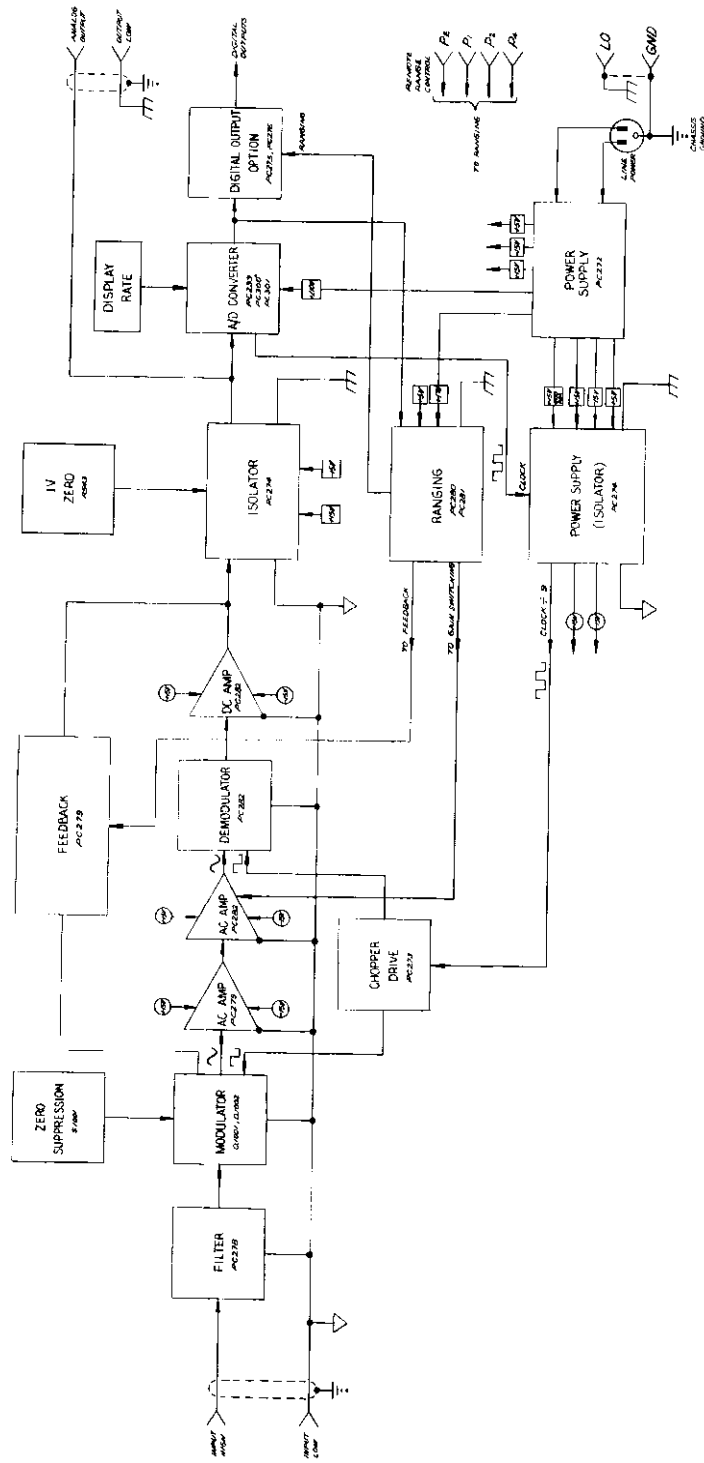

FIGURE 9. Overall Block Diagram.
a. Theory. The analog section includes a sensitive voltage amplifier, autorange switches, and an isolating output amplifier as shown in Figure 9. The voltage amplifier has a two-volt output corresponding to full-scale inputs of 100 μ V to 1000 mV. The autoranging circuit senses the output of the A/D converter in order to range up or down to the desired full-scale sensitivity. The isolating amplifier provides isolation between input low and output low greater than 10^9 ohms (10^{10} ohms at 25°C, 50% RH) and reduces the effects of transients due to output monitoring equipment (spikes, etc. which would otherwise feed back to the source through common low connections).